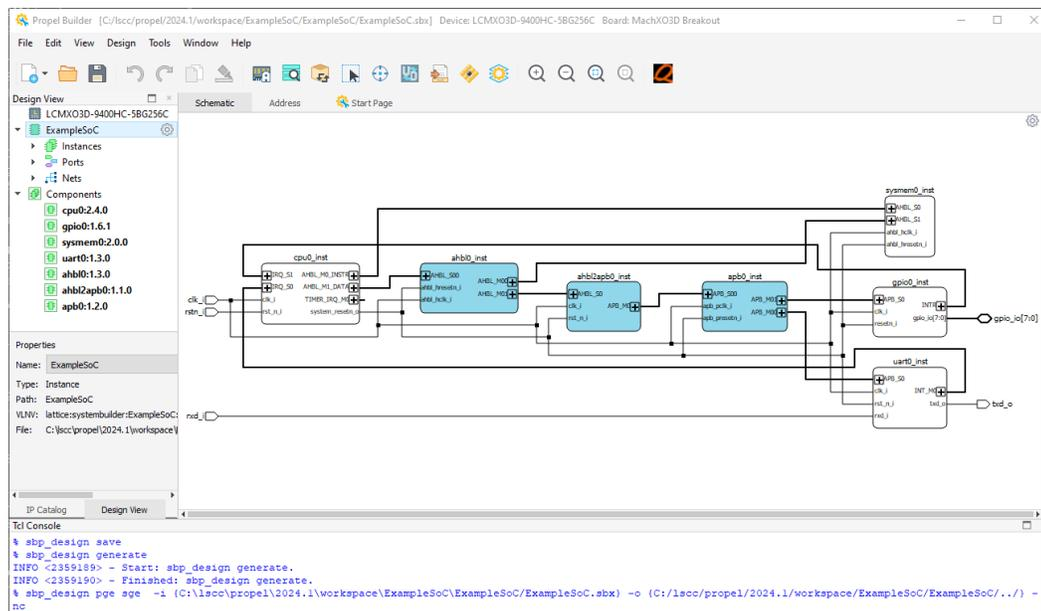

Figure 3.12. Propel Builder Window
The SoC design project is created in workbench, and its design is opened and displayed in Lattice Propel Builder (Figure 3.12).
3. The SoC Design is opened and displayed in Propel Builder (Figure 3.12).